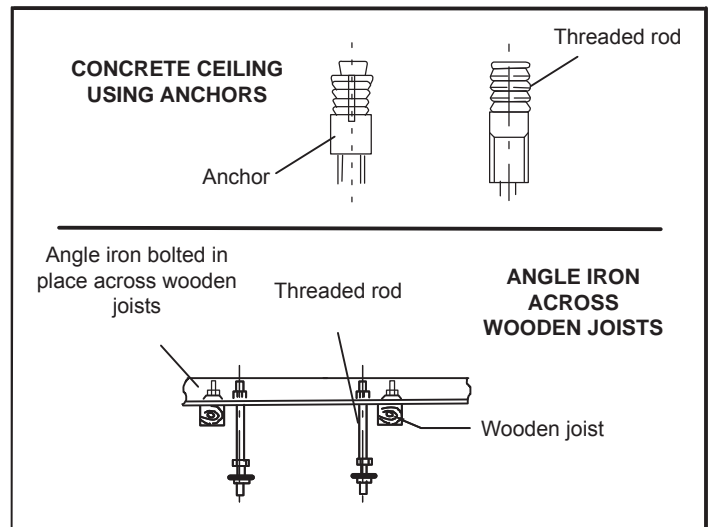

Figure 5. Locate Threaded Rods
- Install suspension rods in the structural ceiling or concrete slab in a suitable location. If the structural ceiling is constructed of concrete, install anchors to accept four suitably sized threaded rods to suspend the indoor unit. If the structural ceiling includes wooden joists, use angle iron or Unistrut channel fixed securely in place to accept the threaded rods. **NOTE** - Threaded rod (requirement of Lennox warranty program) is the ONLY acceptable method of suspending the unit; do not use chains or straps. See figure 5.